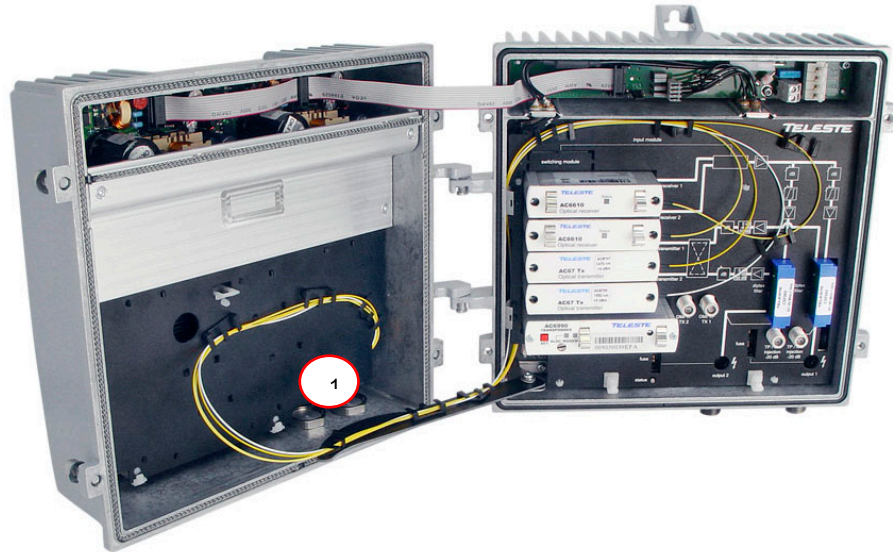
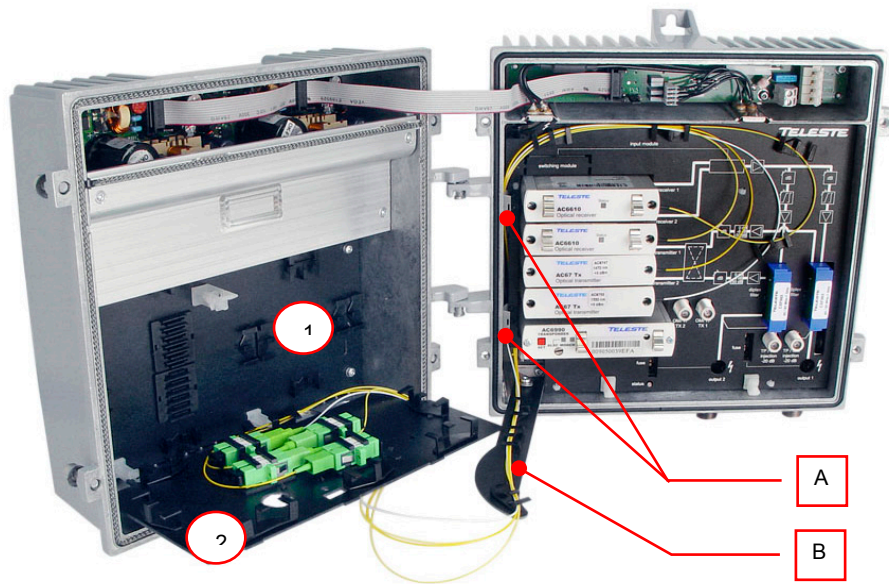

Figure 15. Fibre organiser – lid management option
Figure 16. Routing fibres – typical configuration, A) Retaining clips, B) Swing arm
The lid management assembly consist of a splice tray (Figure 16 pos. 1), with slots for maximum of twelve splices, and a termination tray (Figure 16 pos. 2) containing up to four mounting points for fibre optic adapters. Connectors and adapters are held in place by universal holders, thus ensuring compatibility with variety of existing connectors and adapters. In the lid management option the outside plant fibre cabling is done through the lid coupling (Figure 15 pos.1)
When installing optical units gently route the fibre pigtails around fibre retaining tabs on the base and along the base wall under the retaining clips (Figure 16 pos. A) to the termination tray. Where fibres pass the swing arm (Figure 16 pos. B), be sure to leave sufficient slack for the pigtails to permit closing or opening the lid without damaging fibres. Ensure that no fibres are pinched while the lid is closed.